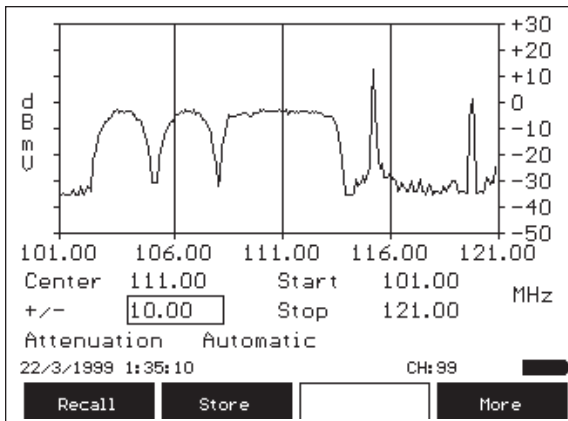

Figure 3. Spectrum mode.
**Spectrum Display Mode:** The channel or system spectrum can be viewed in this mode – channel symmetry and flatness, and relative signal levels can be visually confirmed (see Figure 3).